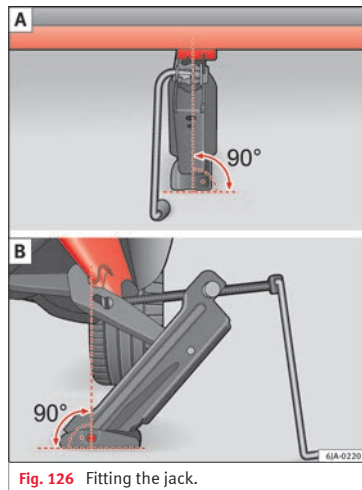

Fig. 126 Fitting the jack.
- Adjust the jack so that its claw surrounds the jacking point on the door sill » Fig. 126 - B underneath the stamp on the door sill.
- Make sure that the base of the jack is entirely supported on a flat surface and that it is vertical » Fig. 126 to the point where the claw surrounds the jacking point on the door sill.